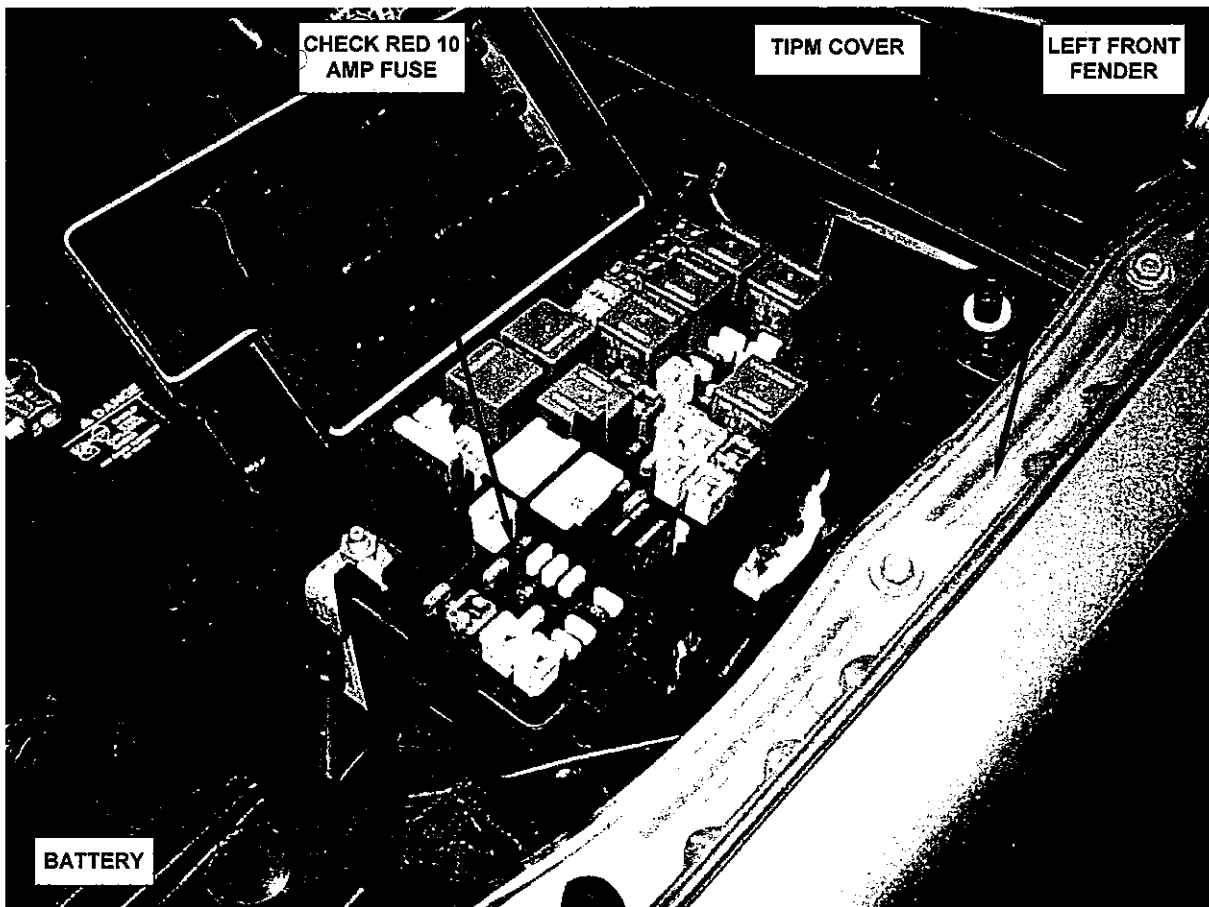

Figure 6 – 10 Amp Fuse Location
- 13. Open the Totally Integrated Power Module (TIPM) cover, check and/or replace the 10 amp fuse shown in Figure 6 and then close the TIPM cover.